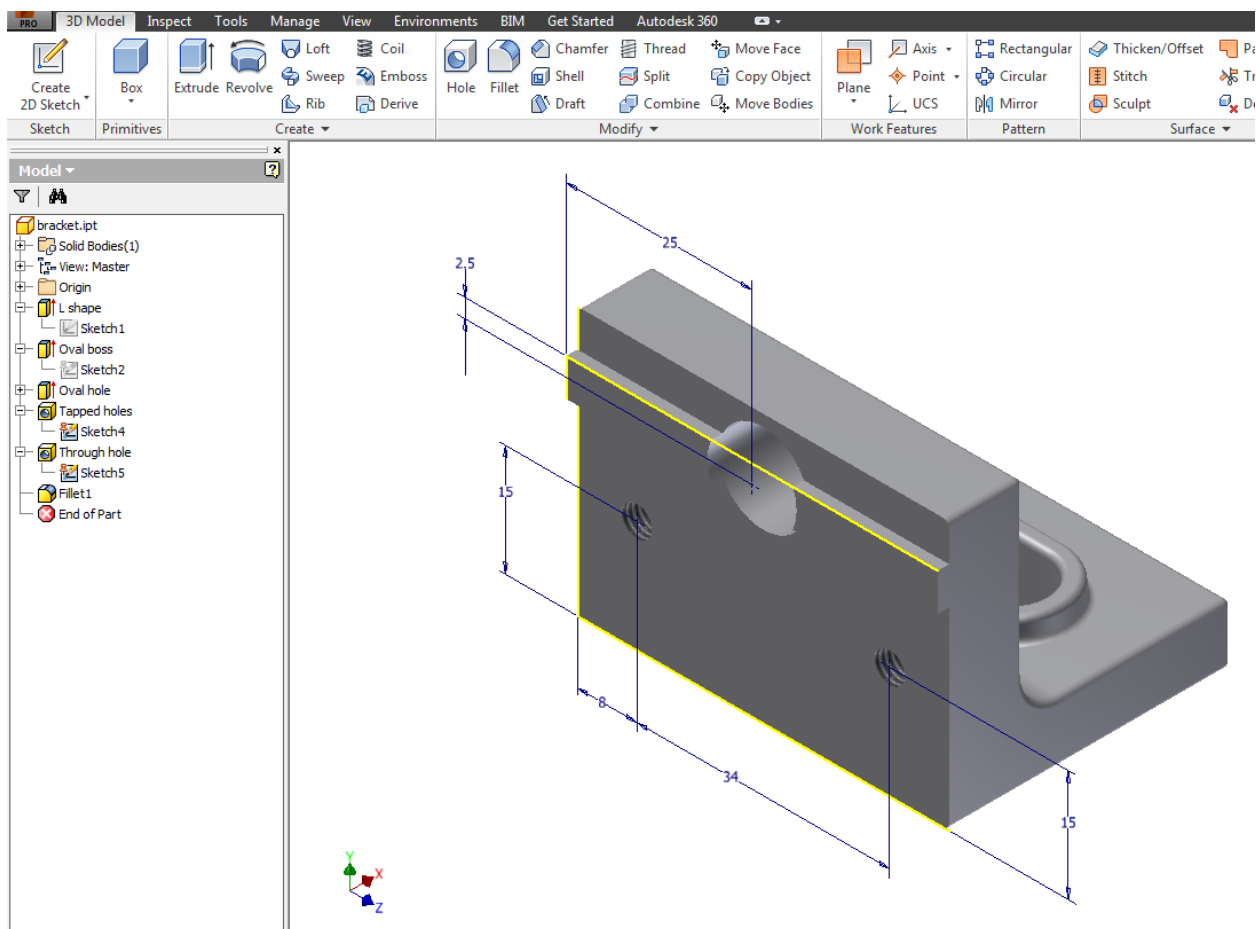

Fig. 1c
- On a fourth sketch, place two **points** and add M5 x 6 deep tapped holes (drill 8 deep), and a fifth sketch with a **point** for the Ø10 through hole (Fig 1c).